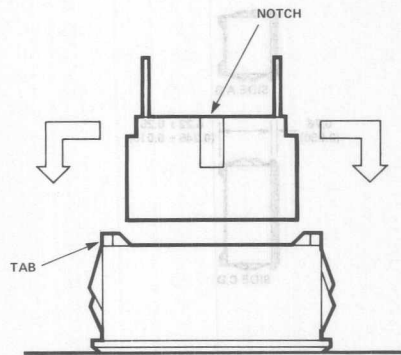

Figure 1. Installation of a Light Bar into a Panel Mount.
2. Place the front of the mount against a solid, flat surface. A firm legend with outside dimensions equal to the outside dimensions of the light bar may be placed in the mount or on the light bar light emitting surface. Press the light bar into the mount until the tabs snap over the back of the light bar. When inserting the HLM-2898, align the notched sides of the light bar with the mount sides which do not have the tabs. (See Figure 1.)